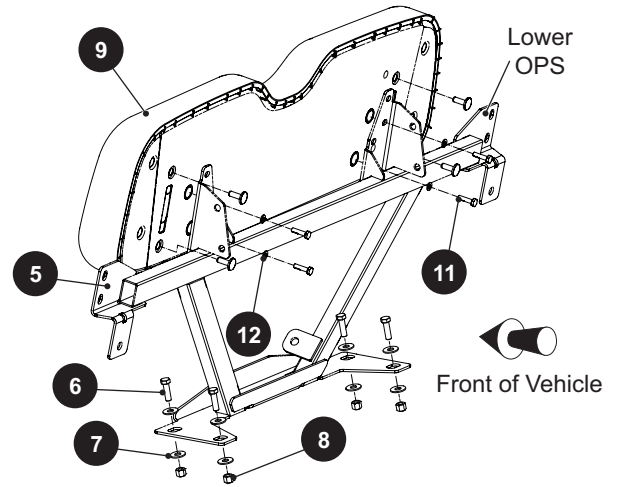

Fig. 1 Front Seat Back Removal
1. To remove front seat back (9), remove four screws (11) and lock washers (12) securing the seat back to the lower OPS (Ref. Fig. 1).
2. Remove the four lock nuts (8), washers (7), and bolts (6), from the seat back support (5) (or lower OPS).